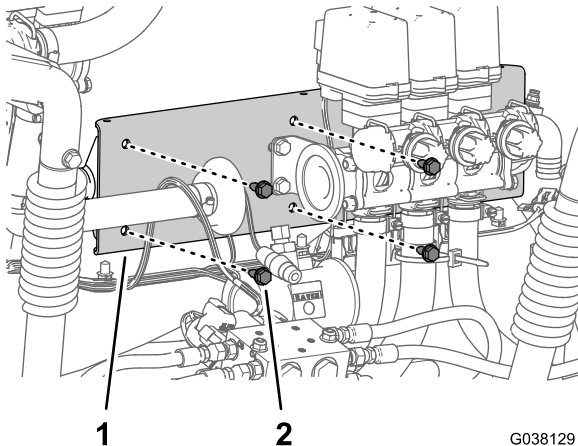

Figure 18
1. Remove the 4 flange-head bolts (5/16 x 3/4 inch) that secure the section-valve bracket to the section-valve mount (Figure 18).